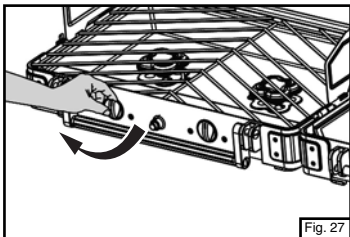

Fig. 27
- Check that both stove control knobs are in the off position (Fig. 27).